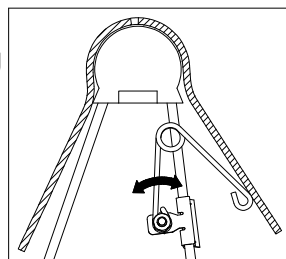

Figure E2: Cutaway view of driver side pivot arm and saddle.
- Set coupler angle.** Adjust the resting angle of your coupler plate by rotating the spring on the driver side pivot arm. Pulling the top of the spring away from the cab will increase the angle of the coupler plate. Set the angle of the coupler so that head will tilt away from the cab when coupling, see Figure E2. Tighten the 1/4" nut once the springs orientation is set.